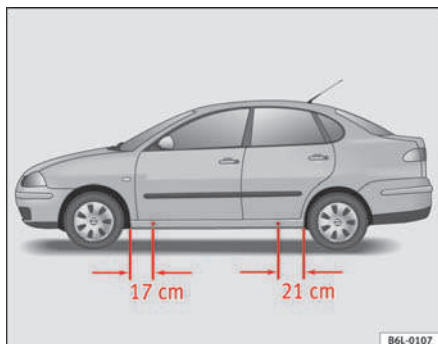

Fig. 134 The jacking points
- Locate the jacking point under the door sill closest to the wheel being changed ⇒ fig. 134.
Recesses at the front and rear of the door sills mark the jacking points ⇒ fig. 134. A position has been made for each wheel. Do not fit the jack anywhere else.